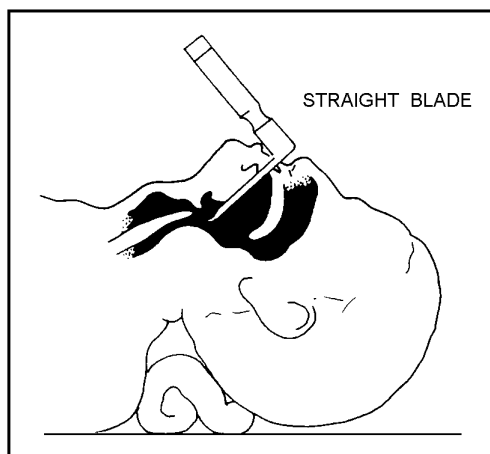

Figure 3-68
- b. When using a straight laryngoscope blade (Miller), hook the blade tip under the epiglottis and pull up to fold back the epiglottis and expose the vocal cords. (See Figure 3-68.)